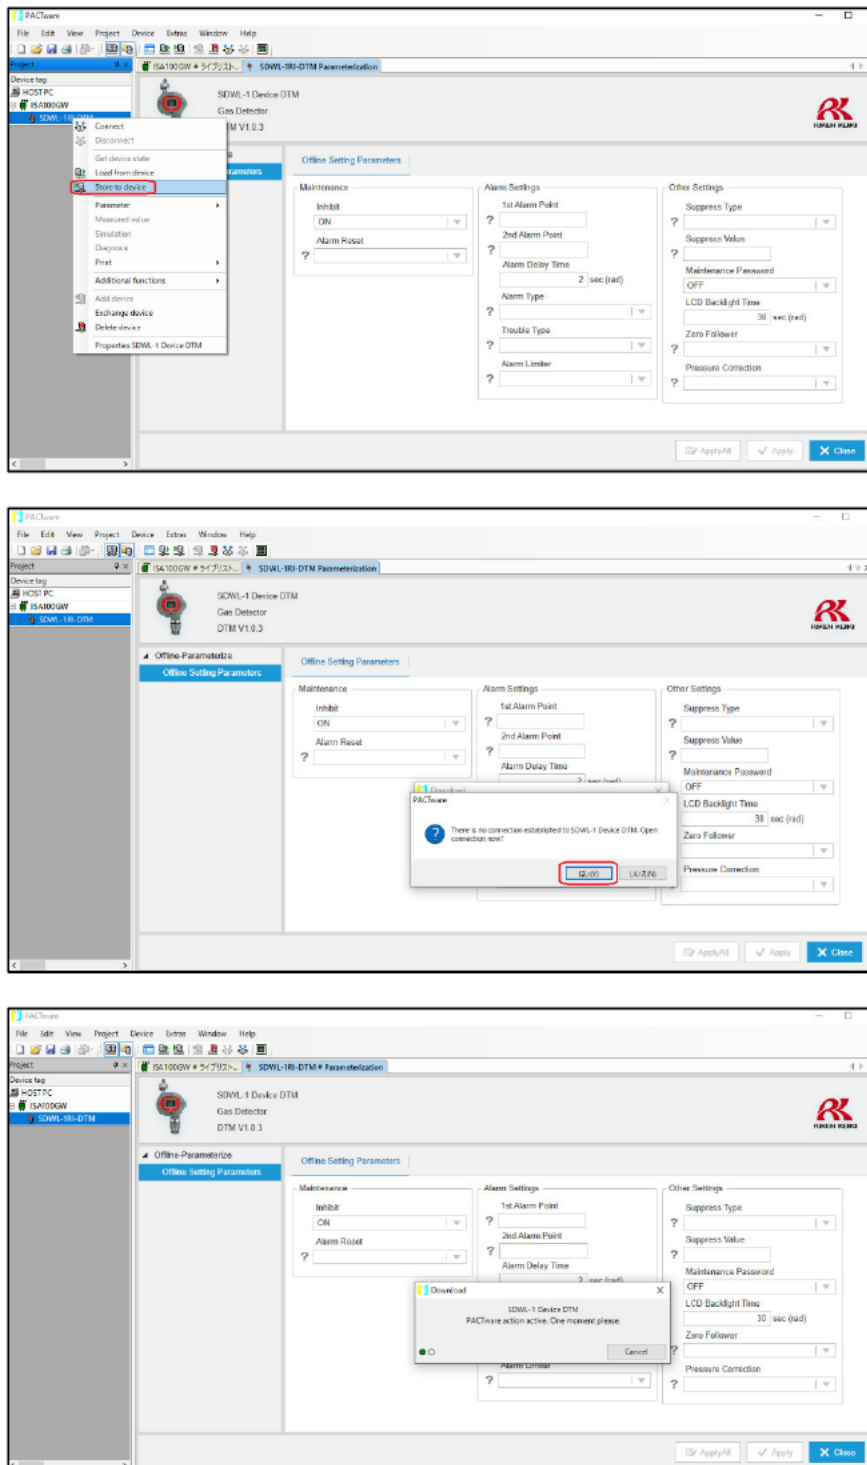

Figure 6-11 Downloading parameter settings to SDWL-1
- ② Right-click the SDWL-1 (tag name) in the tree menu, then select “Store to device”. A download confirmation dialog appears. Click “Yes”. Parameter setting is complete once the download indicator disappears. (Figure 6-11)